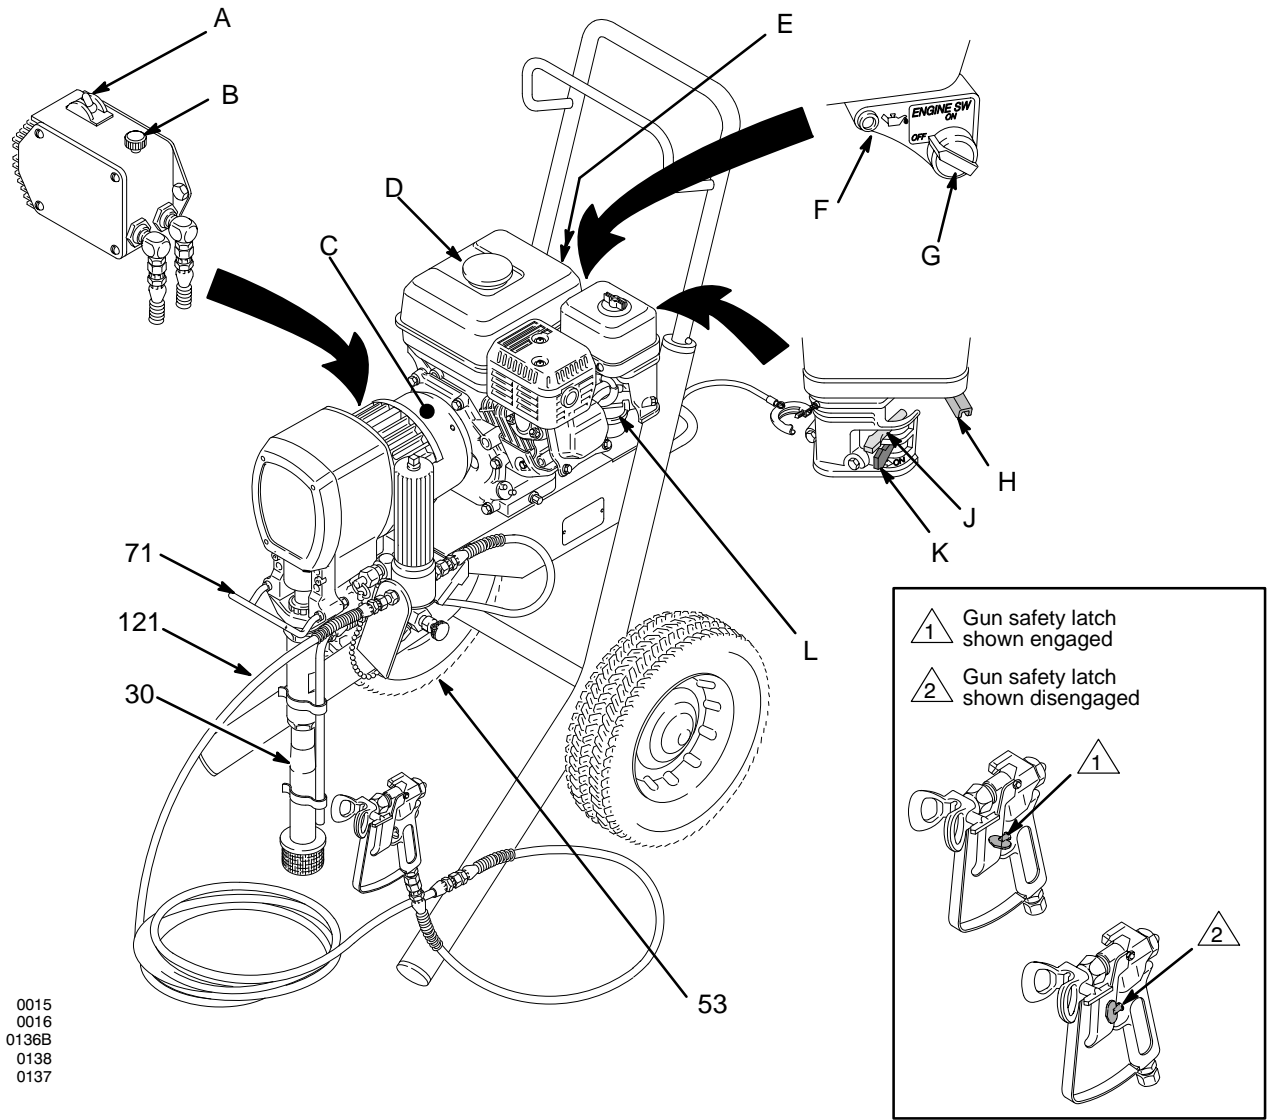

Fig. 3
**NOTE:** Refer to Fig. 3 as you start the sprayer.
1. **Be sure the gas tank is full.** Open the black fuel shutoff lever (K).
3. **Place the suction tube (30) into the paint container.**
4. **Turn the pressure control switch (A) to OFF.**
5. **Open the black fuel shutoff lever (K)** by pushing it in the direction of the arrow.
6. **Be sure the spark plug cable (L) is firmly pushed onto the spark plug.**
Spark plug cable disconnected or spark plug damaged	Connect cable on top of engine or replace spark plug. See Fig. 3, page 11.